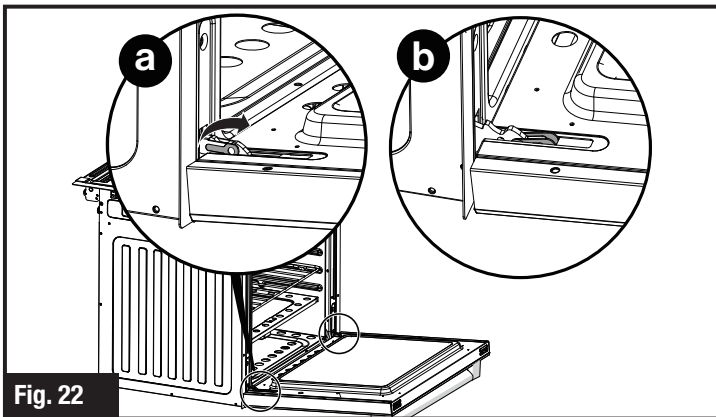

Fig. 22
3. Flip levers on hinges (one on each side) toward you. (Fig. 22)